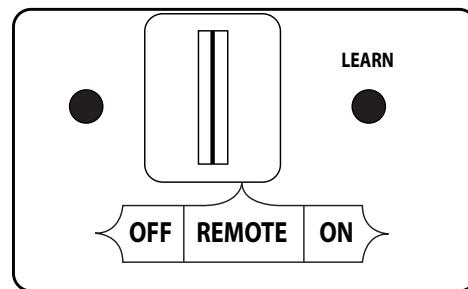

Fig. 21-2 Remote receiver (OFF for Manual Light)
- Ensure the pilot is burning. If equipped, locate the 3-position switch on the remote receiver (see Fig. 21-2), and slide the switch to the **OFF** position.